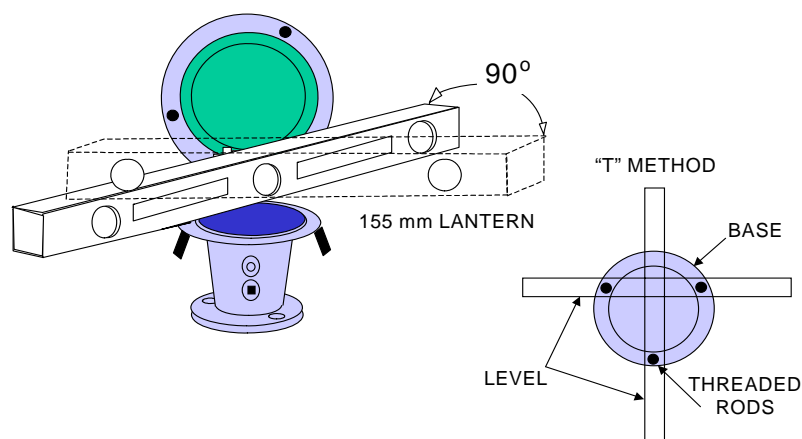
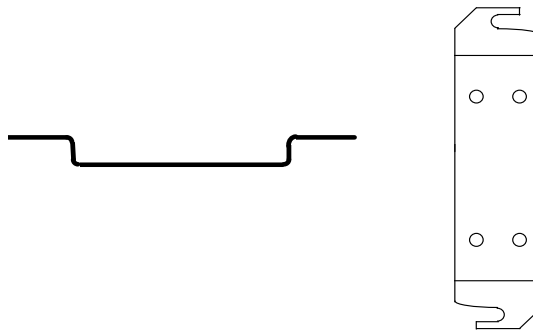

Figure 3-2
Figure 3-3
- (2) Position lantern over threaded rods. Place a flat washer and nylock nut on each rod but do not tighten completely.
- (3) With lens open, place a level on the flange of the lantern base. Use the "T" method shown in Figure 3-2 so that adjustment of one leveling bolt won't affect the other adjustment.
- (4) Adjust the leveling nuts up or down until level.
- (5) Move the level ninety (90) degrees from your first position and readjust. See Figure 3-2.
- (6) Repeat steps until the lantern is level in both positions.
- (7) Tighten top nuts on mounting studs/bolts and recheck levelness of lantern. **DO NOT OVERTIGHTEN.**
- (8) Obtain a tested CG-6P lampchanger and CG-181/493/504 flasher with the appropriate hardware (see Chapter 4).
- c. Attach the mounting bracket between the base of the CG-6P lampchanger and flasher with **four** 10-32x1" screws supplied so that the dip in the bracket is down (see Figure 3-3). The wires from the WK-681 wiring kit must pass **under** the bracket. Attach the bracket to the screws in the base. **Note:** The lock washer must be on top of the bracket or the focal height of the lamp will be affected.